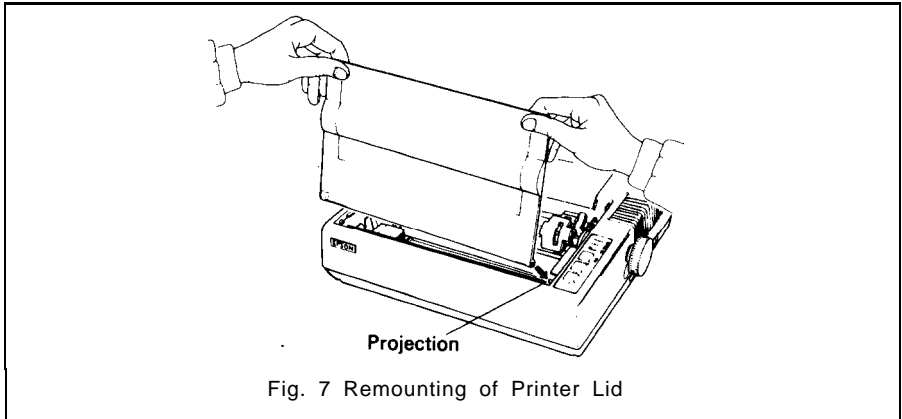

Fig. 7 Remounting of Printer Lid
STEP 1. Fit the right side of the printer lid onto the projection located at the right corner of the Printer's upper case. (See Fig. 7.)